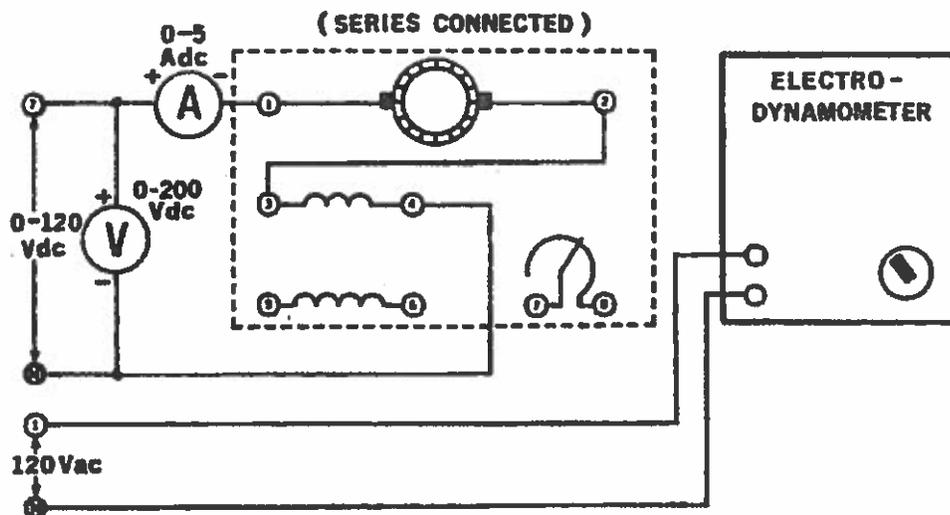

Figure 25-1.
1. Using your Power Supply, DC Motor/Generator, DC Voltmeter/Ammeter and Electro-dynamometer, connect the circuit shown in Figure 25-1.